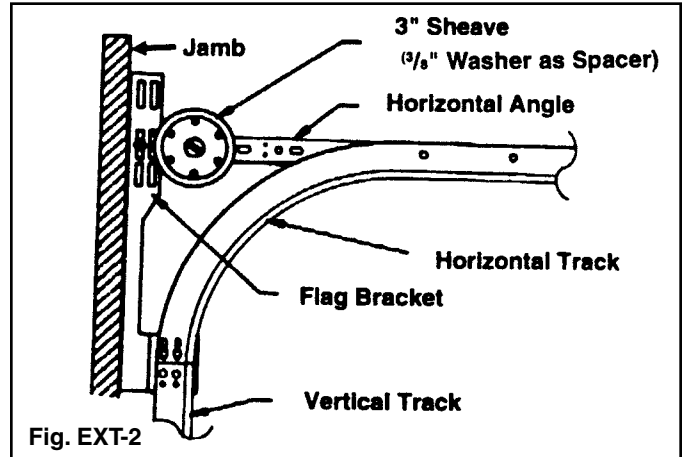

Fig. EXT-2
**Step 2:** Attach a sheave in the third hole on the angle approximately 4 inches from the wall on both sides. Use a 3/8" x 1-1/4" bolt, 3/8" washer and nut. The head of the bolt must be on the door side. (FIG. EXT-2)